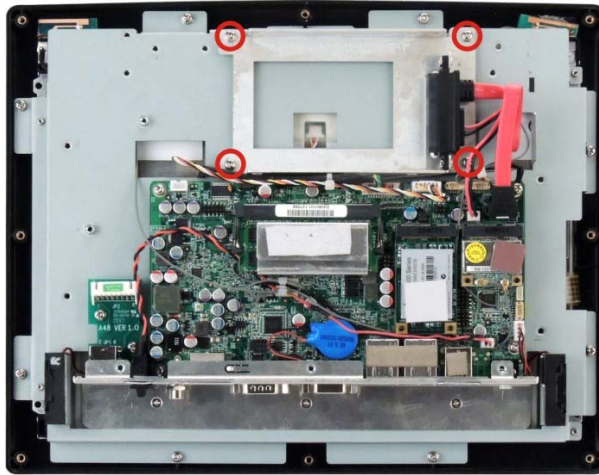

Figure 3-9: AF-12A-N26 HDD Bracket Retention Screws
- Step 2:** Remove the four HDD bracket retention screws (**Figure 3-9**). Disconnect the SATA cable and the SATA power cable. Lift the HDD bracket off the panel PC.